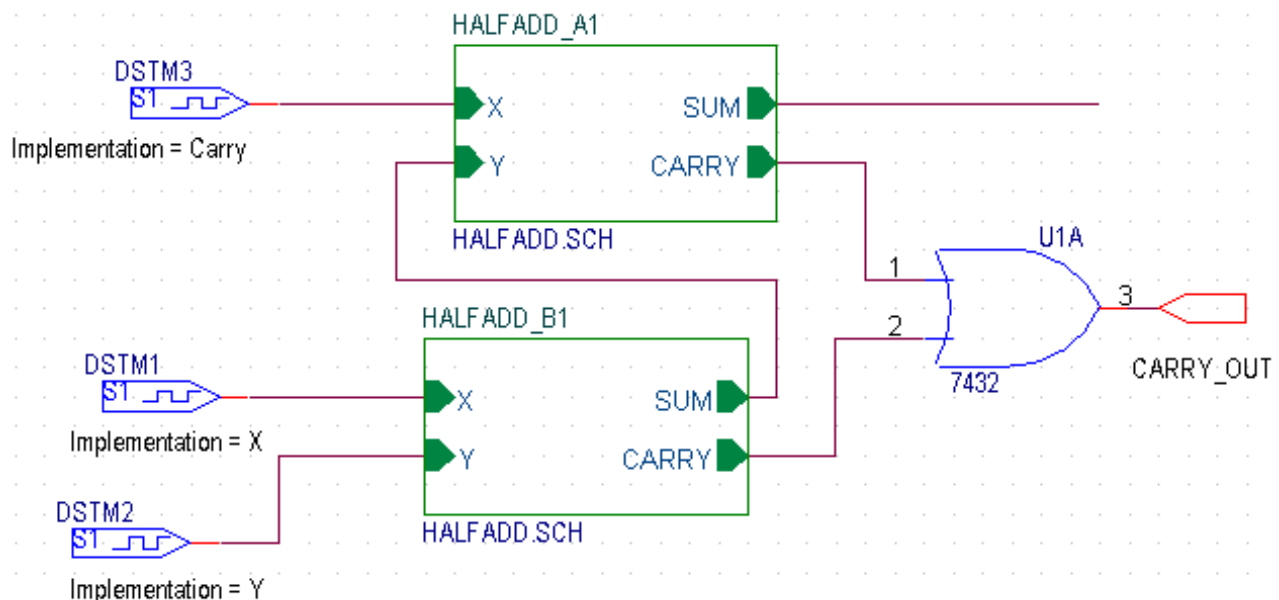

Figure 2-2 The full adder circuit
16. Using the Place Part dialog box, add an OR gate (7432) to the schematic. (See Figure 2-2 on page 26.)
24. Specify the value of the Implementation property as Carry, X, and Y, respectively. See Figure 2-2 on page 26.
25. Select the Place Port  button, to add an output port, CARRY_OUT, to the output of the OR gate. (See Figure 2-2 on page 26.)
28. Place the output port as shown in the Figure 2-2 on page 26.